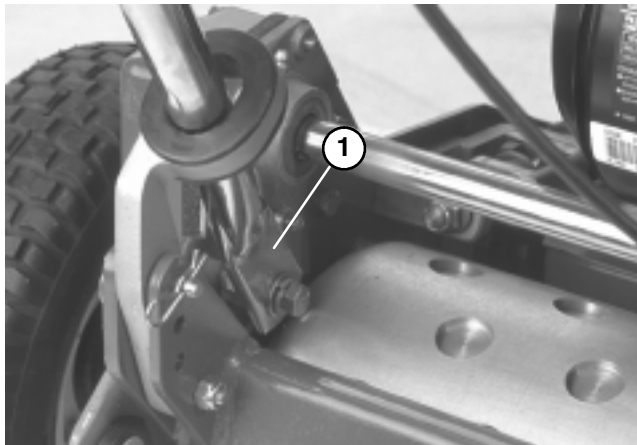

Figure 2
5. Squeeze handle ends inward and install on mounting pins (Fig. 2).
6. Secure handle ends to mounting pins with capscrews, washers and lockwashers previously removed (Fig. 2).
7. Secure bottom of handle arms to each side of mower with capscrews and locknuts, previously removed (Fig. 2). Make sure bushings are installed in handle arm mounting holes. Do not overtighten capscrews as handle arms must pivot freely.
8. Secure handle arms to rear of frame with hair pin cotters and ring pins previously removed (Fig. 2).
1. Remove hairpin cotters from ring pins on each side of mower (Fig. 2).
2. While supporting handle, remove ring pins from each side and raise or lower handle to desired operating position. (Fig. 2).